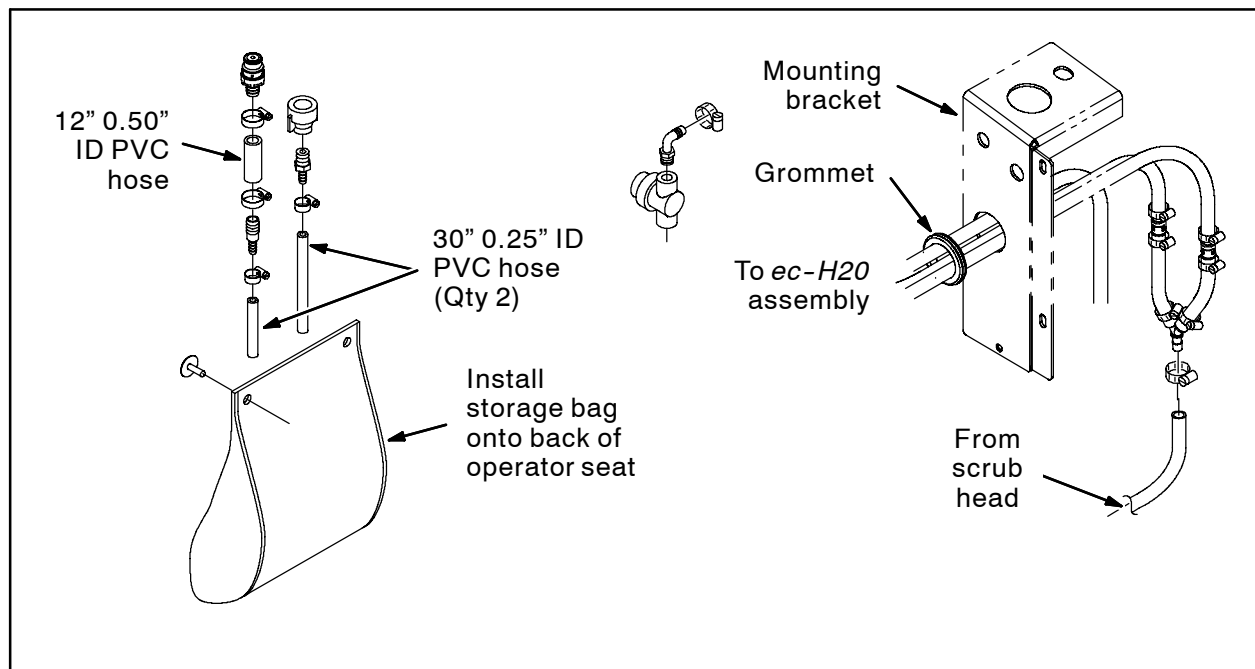

FIG. 10
50. Slide the grommet onto the hoses /cables on the *ec-H20* assembly. Refer to Fig. 10.
54. Install the grommet into the mounting bracket. Refer to Fig. 10.
58. Install the storage bag onto the back of the operator seat. Refer to Fig. 10.
59. Assemble the *ec-H20* flush hose assemblies. Refer to Fig. 10.